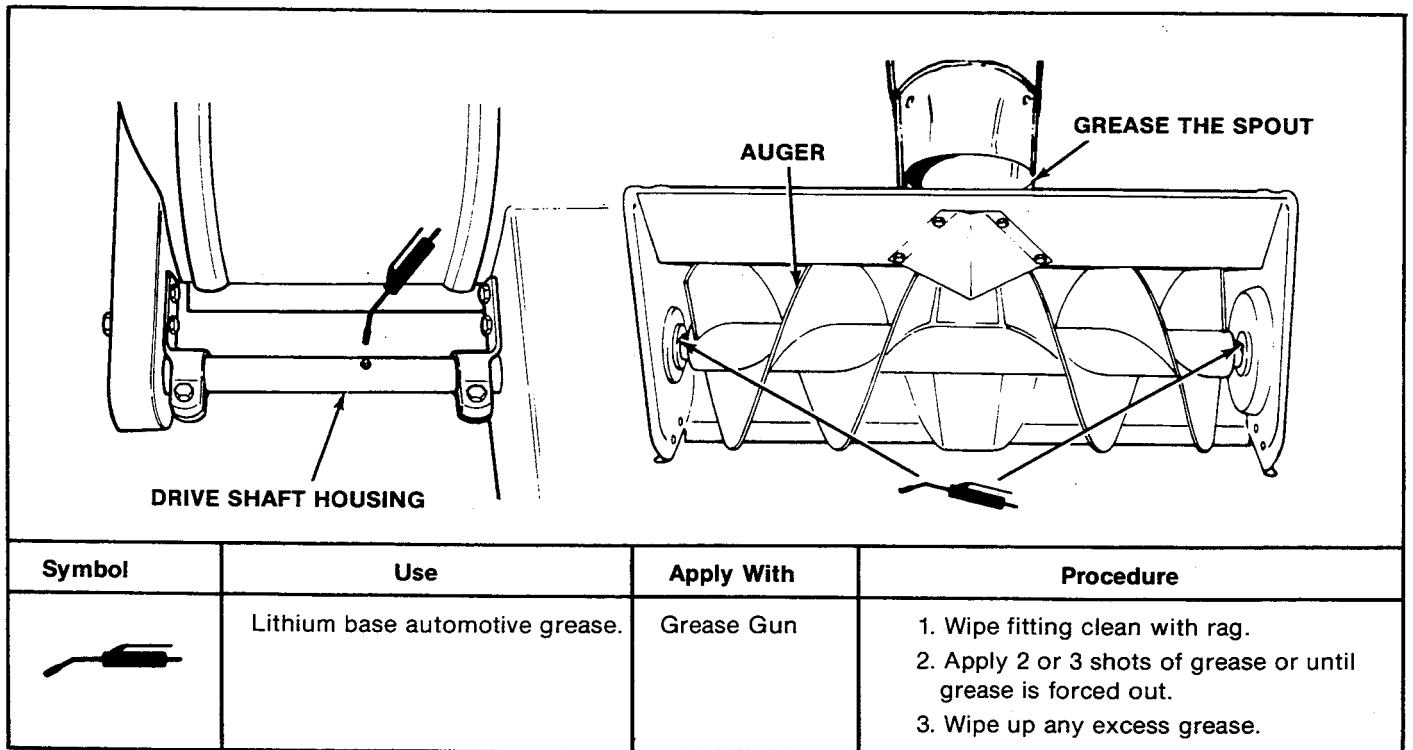

Figure 11. Lubricate Drive Shaft & Auger Shaft
- a. Spout Rotating Surface (shown in figure 11); and
2. Lubricate drive shaft and auger shaft as shown in figure 11.